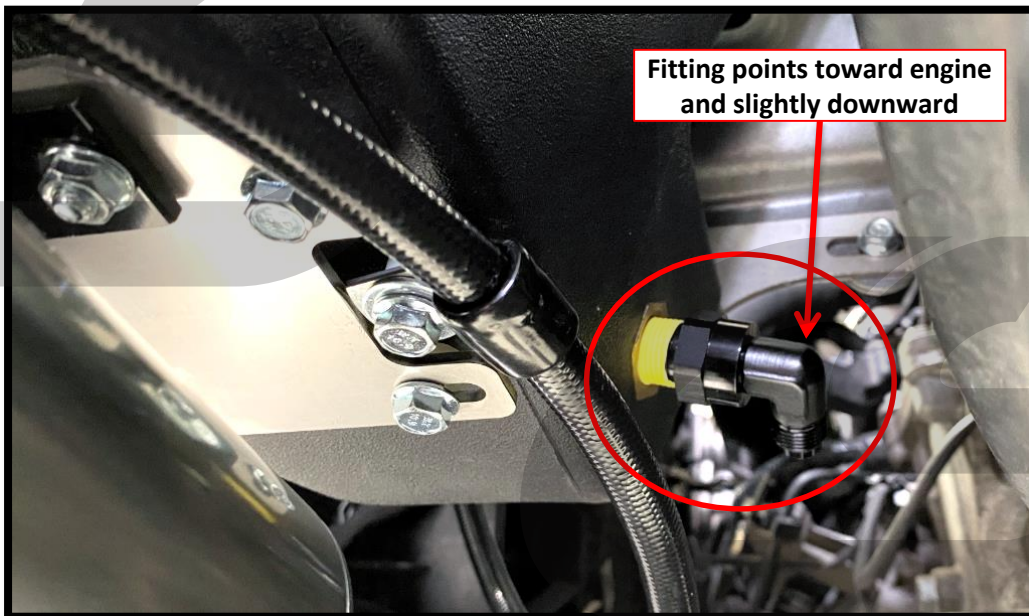

Figure 12k
p) Install this fitting into the return port of the CorkSport Aux Fuel Tank. Tighten it hand tight, plus 1-1.5 turns with a 3/4" or adjustable wrench. Ensure the end of the fitting points toward the engine/center of the vehicle and slightly downward. Shown completed with **red circle** in **Figure 12k**.